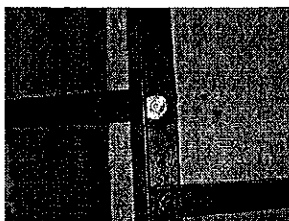

Figure 18. Nylon mattress strap and "Foot" foundation piece attached to the frame.
foundation piece over top of the nylon mattress straps and onto the frame. Run screw through frame hole, through strap and tighten into foundation. Refer to Figure 18, which shows nylon mattress strap and "Foot" foundation piece attaching to the frame. Attach "Foot" mattress foundation piece to the frame using two (2) additional wood screws through the holes provided in the side rails of the bed frame (1 on each side).